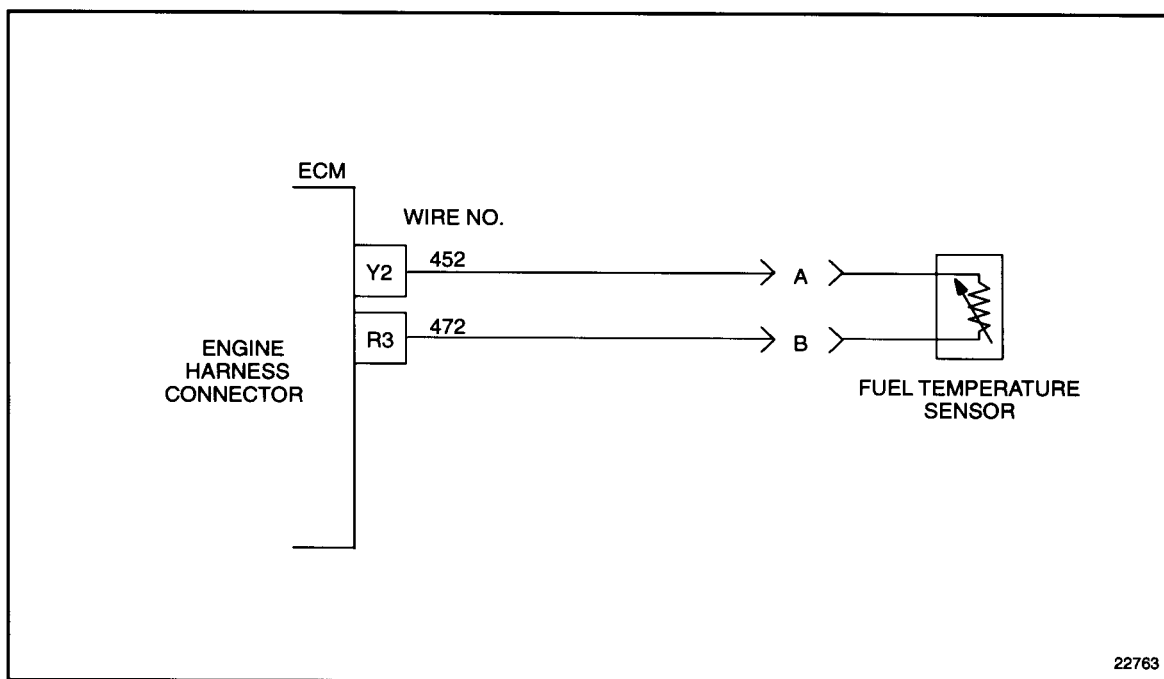

Figure 24-2 Fuel Temperature Sensor
1. Check terminals at the FTS connector (both sensor and harness side) for bent, corroded, and unseated pins or sockets. See Figure 24-2.